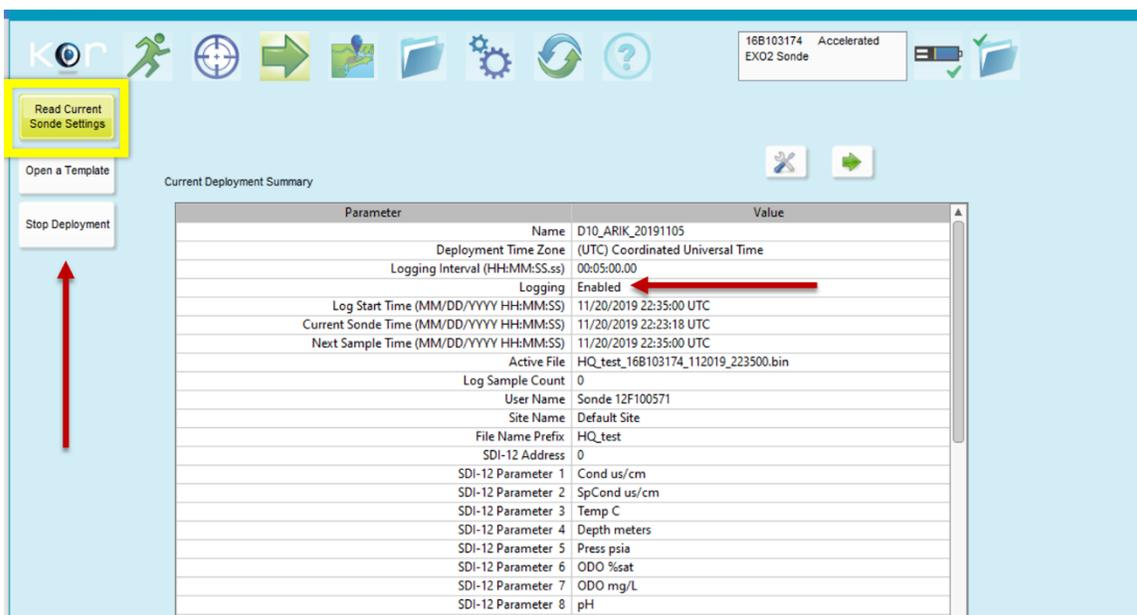

Figure 9. Read Current Sonde Settings to Verify Logging is Enabled
- After the settings load, confirm that logging is enabled by clicking on **Read Current Sonde Settings**. Logging is enabled if the **“Stop Deployment”** button displays and Logging **“Enabled”** is indicated in the Current Deployment Summary table. (**Figure 9**).